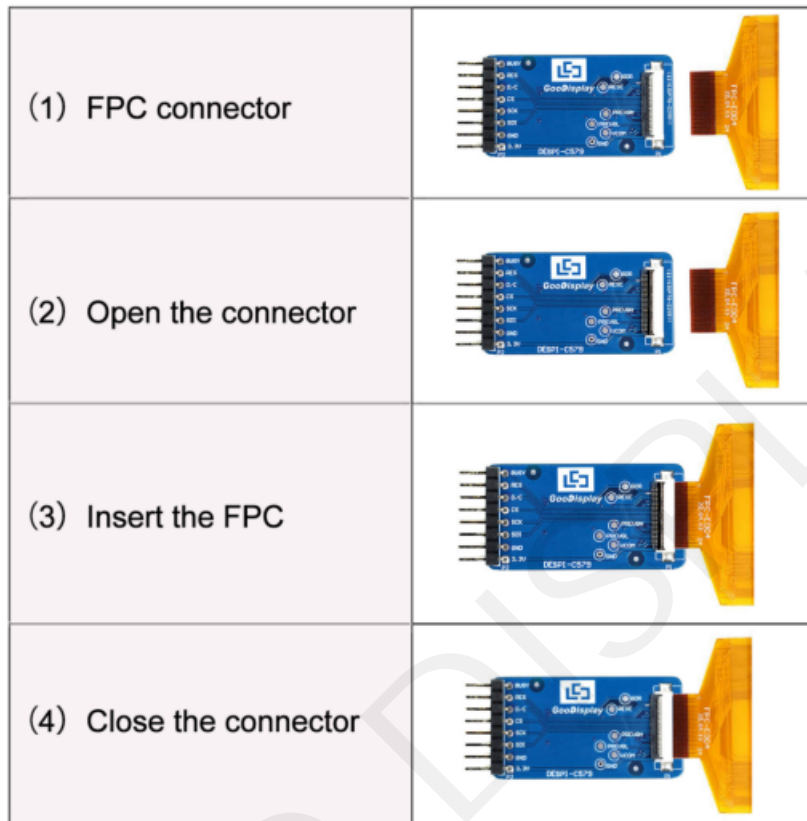

Figure 4.2 : Connection between DESPI-C579 and e-paper display
2) Insert the FPC gold finger upward into the P1 connector of the adapterboard as shown in Figure 4.2.